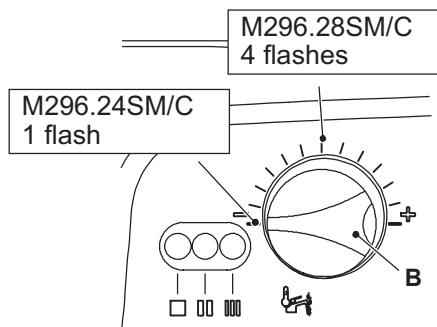

Figure 10.9
At this step it is possible to visualize the current setting by keeping the reset button D pressed for more than 5 seconds. The lamps F will flash a number of times corresponding to the setting Figure 10.9 (once for M296.24SM/C and four times for M296.28SM/C).
- 9 To change the setting turn the knob B on a position corresponding to the boiler models (Figure 10.9). By turning the knob B, the lock-out signal lamp E blinks quickly (2 per seconds) indicating that the setting has changed and must be memorised.